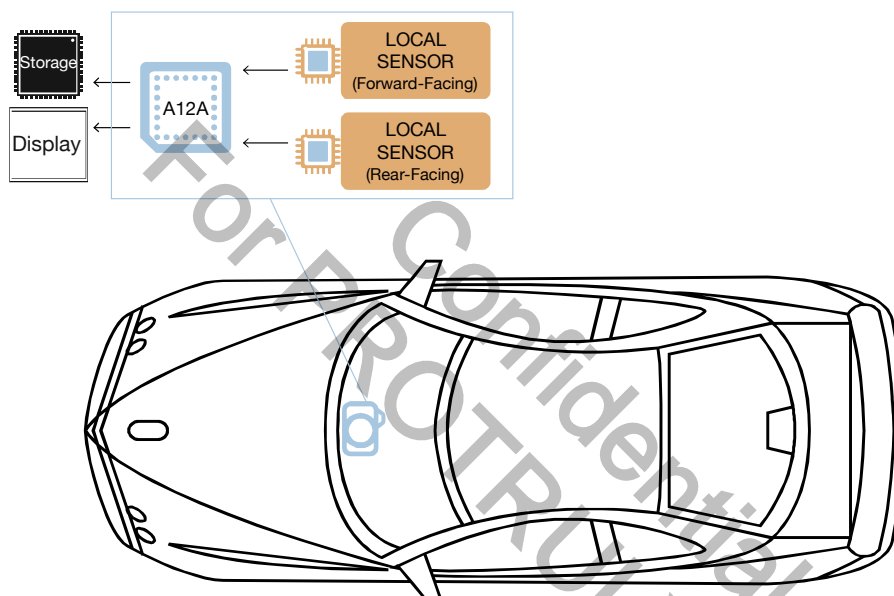

Figure 1-2. A12A55 Automotive Video Camera Application: Two-Channel Standalone with Two Local Sensors.
- Two local sensors generate two distinct inputs to the A12A55 SoC (Figure 1-2)